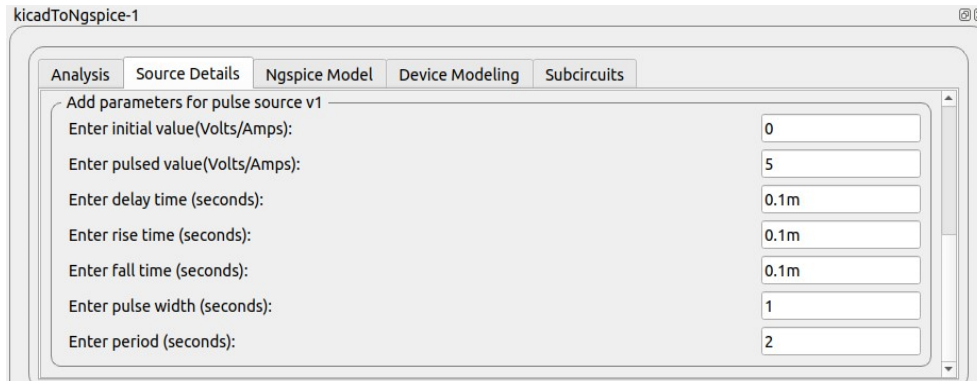
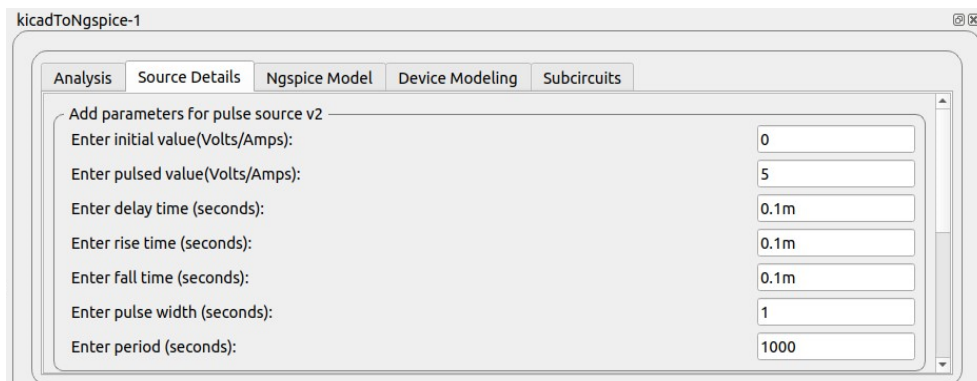

Figure 11.33: Values for Source v1
Figure 11.34: Values for Source v2
2. Now click on Source Details and enter the values for Source v1 and Source v2 as shown in Fig. 11.33 and Fig. 11.34